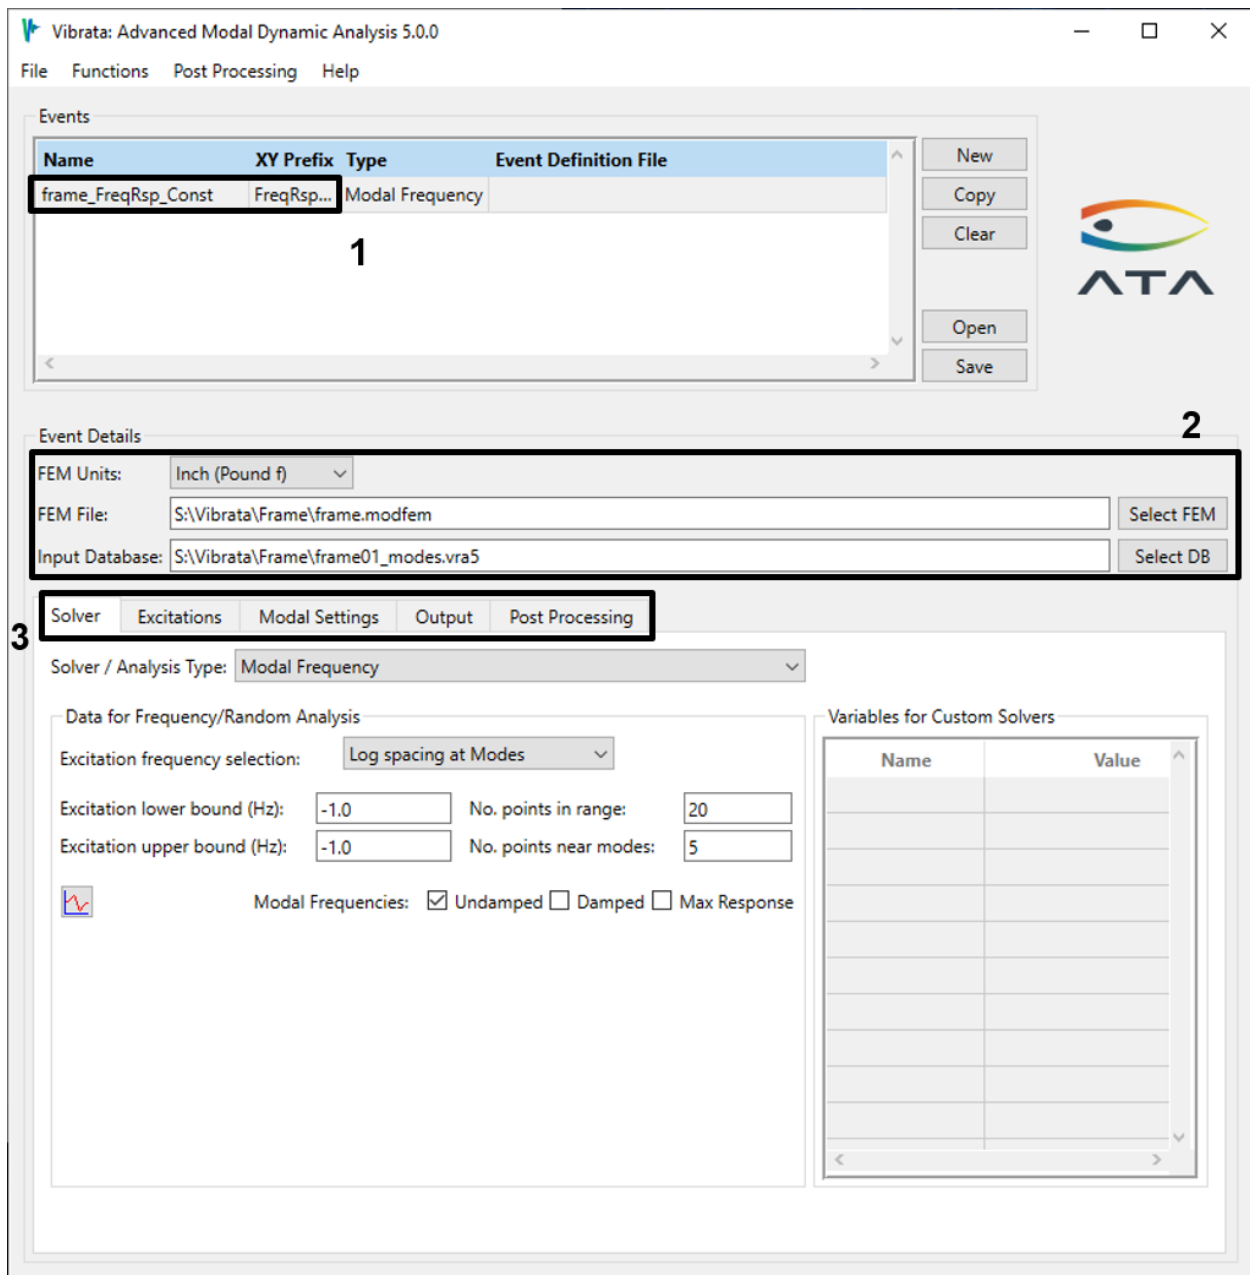

Figure 4-24. Create a new model frequency event using the frame model.
2. In the Event Manager, start a new modal frequency event and select "frame.modfem" for the FEM and "frame01_modes.op2" for the results. Give the event a recognizable name, such as the one shown in Figure 4-24.